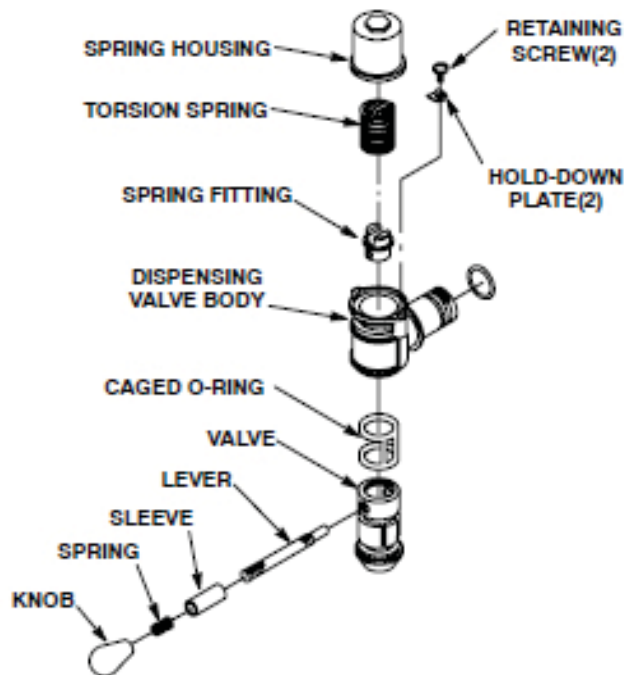

Figure 10. Self-Closing Dispensing Valve
Refer to Figure 10 and perform the procedure in Table 12 to lubricate or change the caged o-rings in each dispensing valve on the unit.
6.	Disassemble the dispensing valve (see Figure 10).